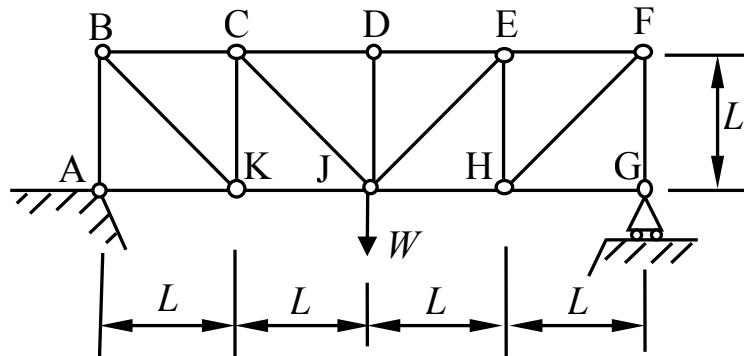

Fig. 5
* 6. All the bars in Fig. 5 have cross-sectional area A and Modulus of Elasticity E .
† 8. For the plane truss shown in Fig. 5, find the axial forces caused by a vertical unit load $P^* = 1$ acting downwards at C. Hence use virtual work to find the vertical displacement of C due to a vertical load W acting at J as shown in Fig. 5. (Hint: you should already have found the bar extensions due to W , in solving Question 6).
9. For the truss shown in Fig. 5, with a vertical load W applied downwards at joint J, use virtual work to find: